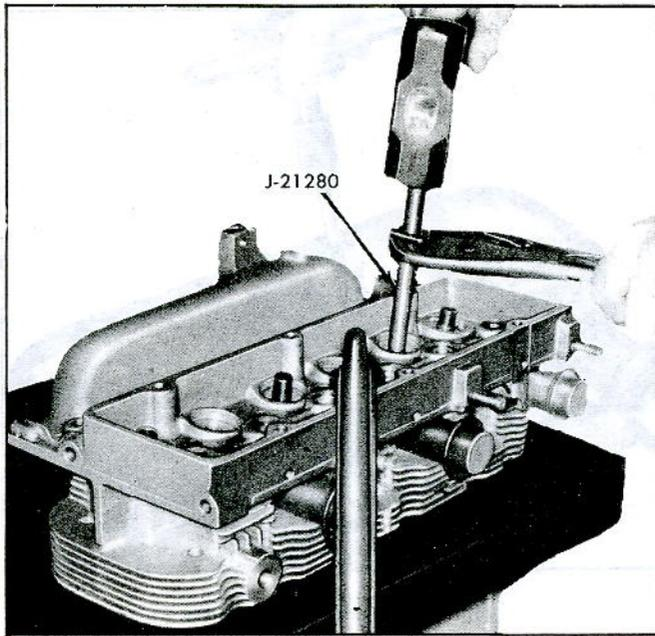

Fig. 88—Removing Valve Guide
- Remove worn guides using the J-21280 Remover and a hammer (2 lb. minimum). Drive valve guide from the spring seat side (fig. 88) so that the guide will exit on the combustion chamber side of the cylinder head.